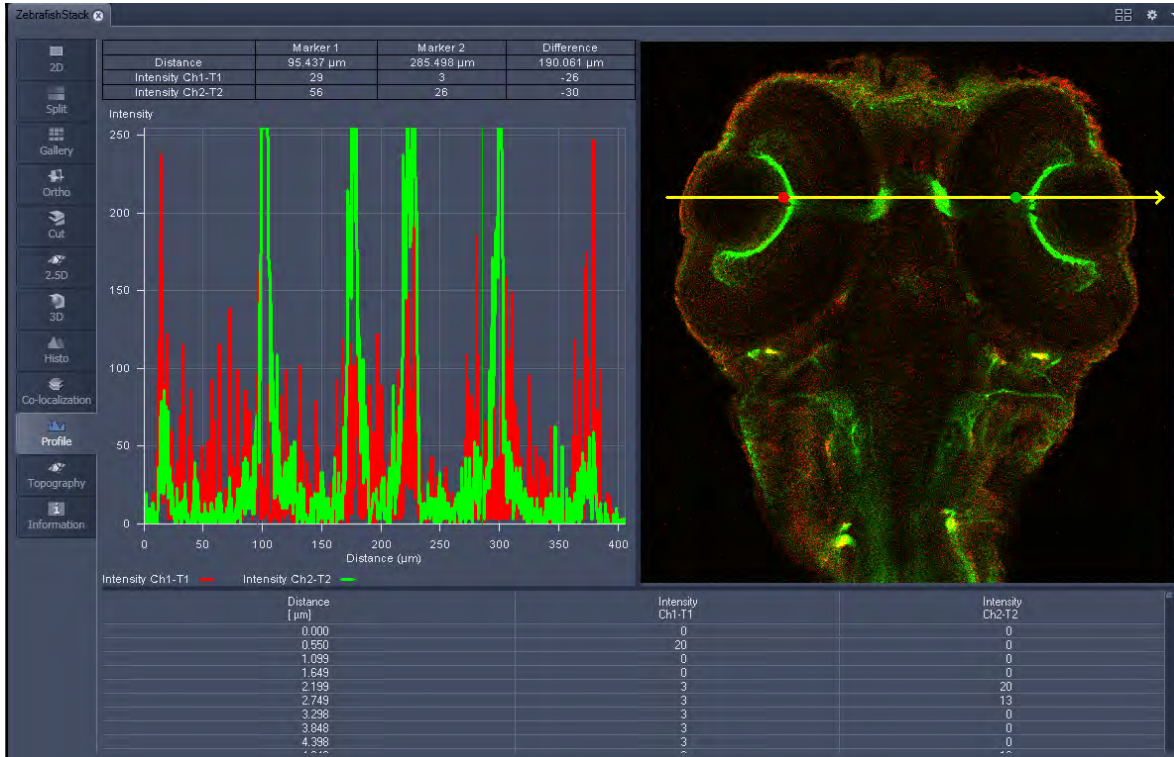

Fig. 224 Image Display - Profile View, Line Profile with markers
- Draw a Profile line in the image display to define a profile. The intensity curves are shown in a separate graph (see Fig. 224).